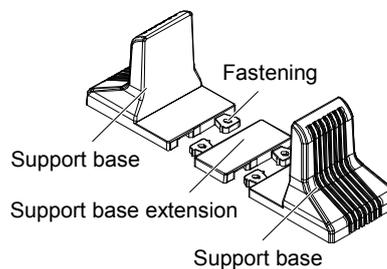

Figure 2-3 Connecting the support base with support base extension
1. Take out the support bases from the accessories, assemble a pair of support bases and a support base extension (accessory) together through the fastenings, as shown in Figure 2-3, and put them onto the flat installation table.